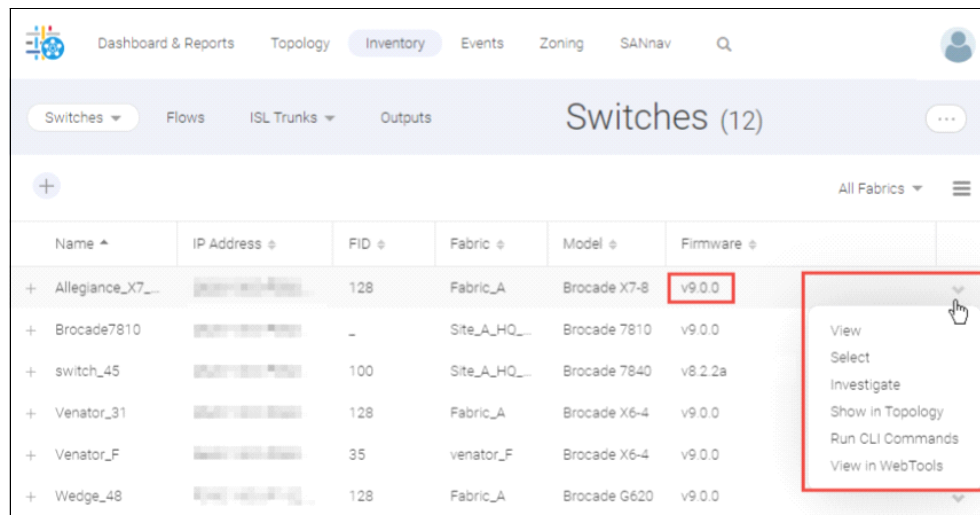

Figure 11-53 Starting WebTools from SANnav Management Portal
- To start from SANnav Management Portal, locate the switch on the SANnav Inventory page, click the down arrow to the right of the switch, and select **View in WebTools** from the action menu (see Figure 11-53).